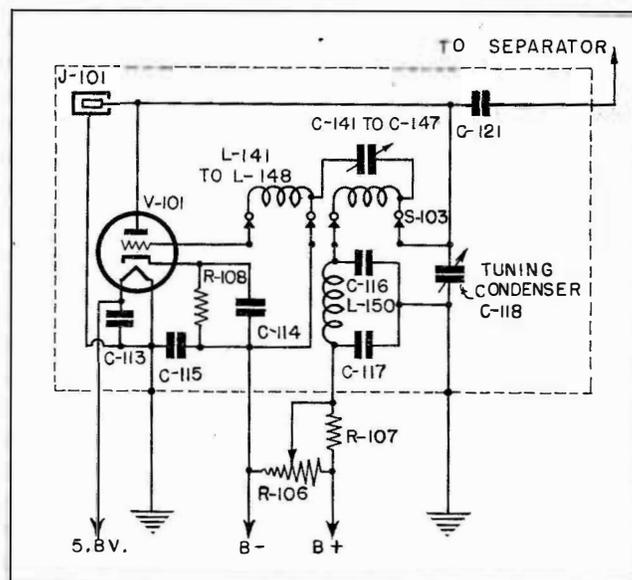

Figure 4-1—Schematic Diagram of the Carrier Oscillator
All Symbol Designations of components and parts that are given in parenthesis in the text will be found on the individual element schematic diagrams (Fig. 4-1 to Fig. 4-19 inclusive) as well as on the photographic illustrations (Fig. 7-1 to Fig. 7-12 inclusive in Section VII). The same Symbol Designations will be found on the panel view of the equipment, (Fig. 7-13). The schematic wiring diagram (Fig. 7-14) is likewise marked with the same Symbol Designations. For a complete list of all elements see Section VI—PARTS AND SPARE PARTS.
a. The Carrier Oscillator is of the conventional tuned-plate type having the coupling between grid and plate circuits essentially electromagnetic. The principal electrical features are shown in the schematic diagram, Figure 4-1; the details are covered in the wiring diagram (Fig. 7-14) at the end of Section VII.